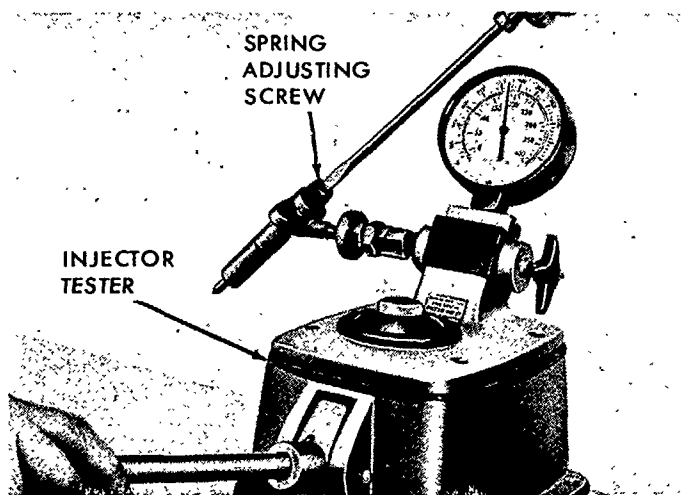

Figure 39
4. Connect the injector to the Injector Tester, page 32, and adjust the nozzle opening pressure to 2720-2794 psi (190.4-196.4 kg/sq. cm), Figure 39.